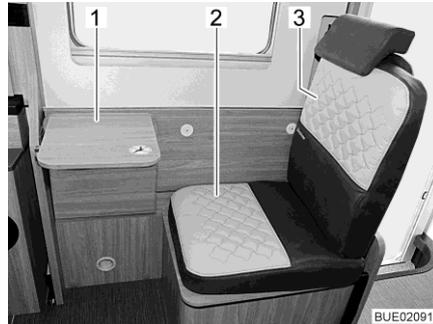
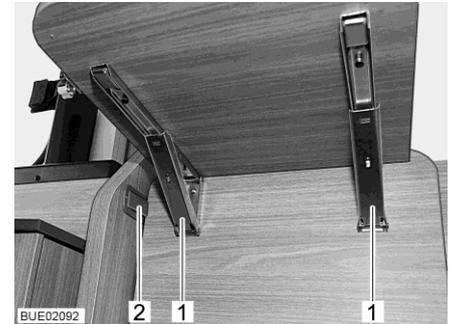

Fig. 29 Additional seat with folding table
Fig. 30 Catches on the folding table
- Attach the included seat cushion (Fig. 29,2) and the back cushion (Fig. 29,3).
- Swing the divan's front part upwards until it engages in the plastic catch (Fig. 30,2).
- Folding the table top away: Unlock both catches (Fig. 30,1) and swing table top (Fig. 29,1) downwards.